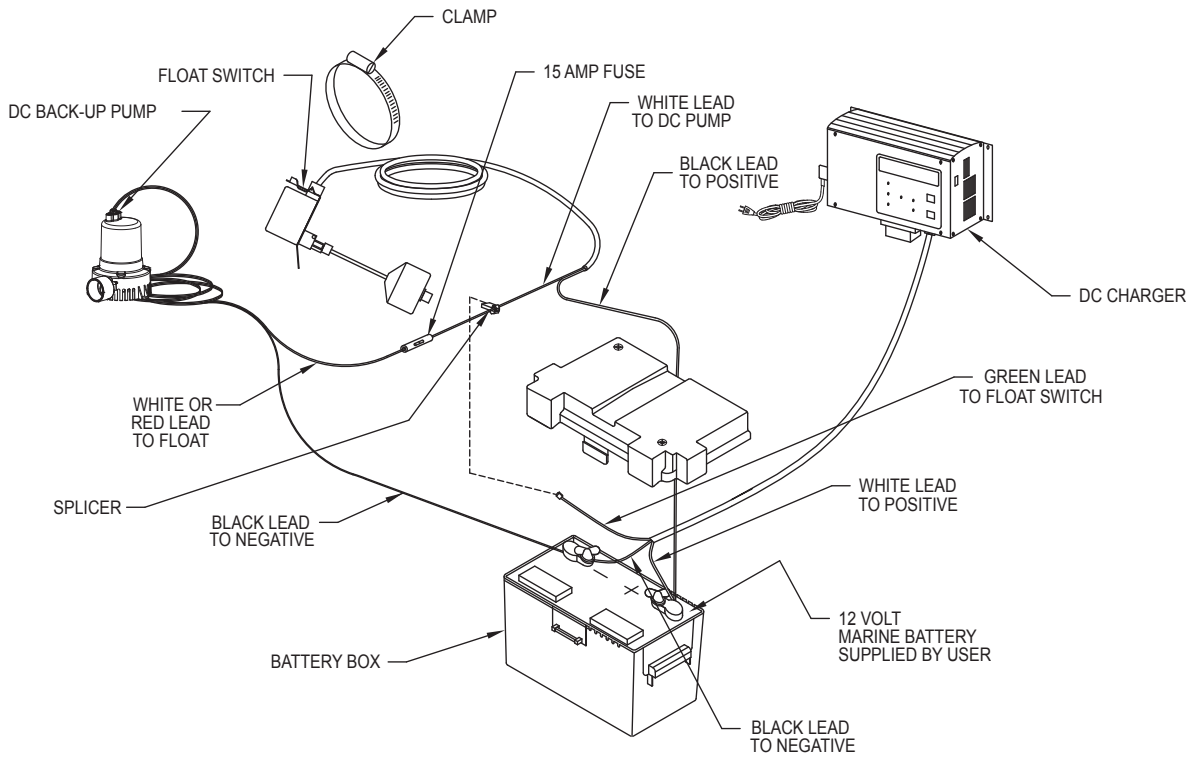

FIGURE 3
- Install DC charger (see figure 3) by using anchors provided. If more convenient, the charger may be set on a nearby shelf or ledge. The charger should be located 3 or 4 ft. above the sump. Then, remove protective screen from the front of the charger.
- Connect the black lead from the pump to the negative (-) battery terminal. Connect the white lead from the pump to the white lead from the switch. This connection is made at the fuse installed on the switch wire (see figure 3). Connect the black lead from the switch to the positive (+) battery terminal.
- Connect the green sensor wire to the sensor connector (figure 3).